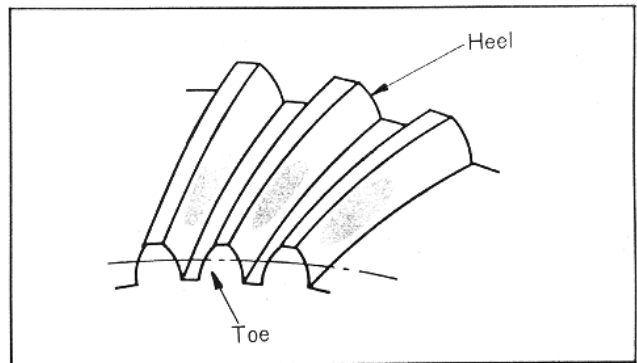

Fig. 9-36 Correct tooth contact
- If the pinion position and backlash have been correctly set, the contact pattern should be as shown in Fig. 9-36.